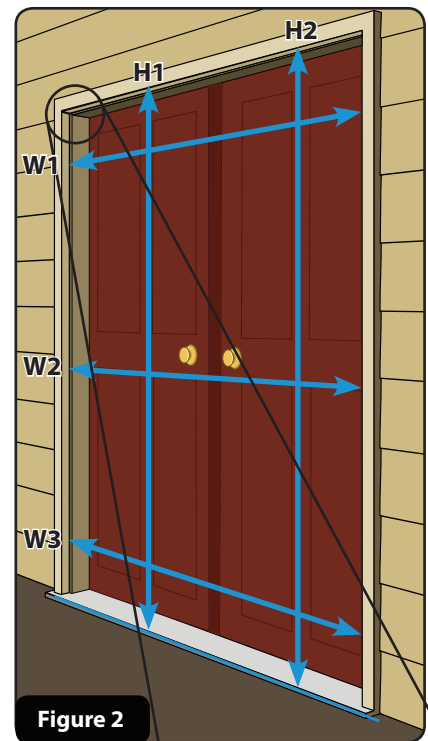

Figure 2
1. Measure the width at the top, middle, and bottom of the opening (Figure 2). Measure from the inside of the brick mold or exterior trim. Refer to Table 1.